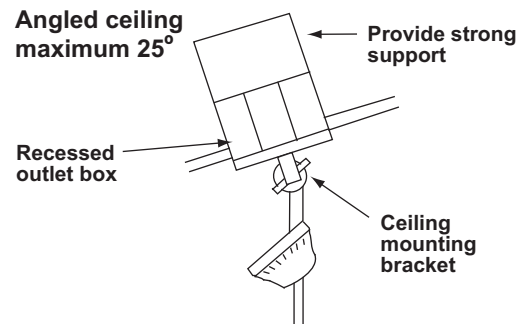

Figure 3
**Note:** You may need a longer downrod to maintain proper blade clearance when installing on a steep, sloped ceiling. (Fig. 3)